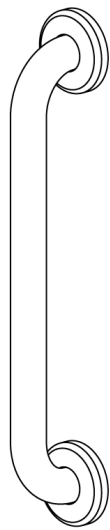

Fig.1
6. Slide the bracket covers back onto the wall brackets and twist in a clockwise direction to lock the covers in position. (See Fig.1)